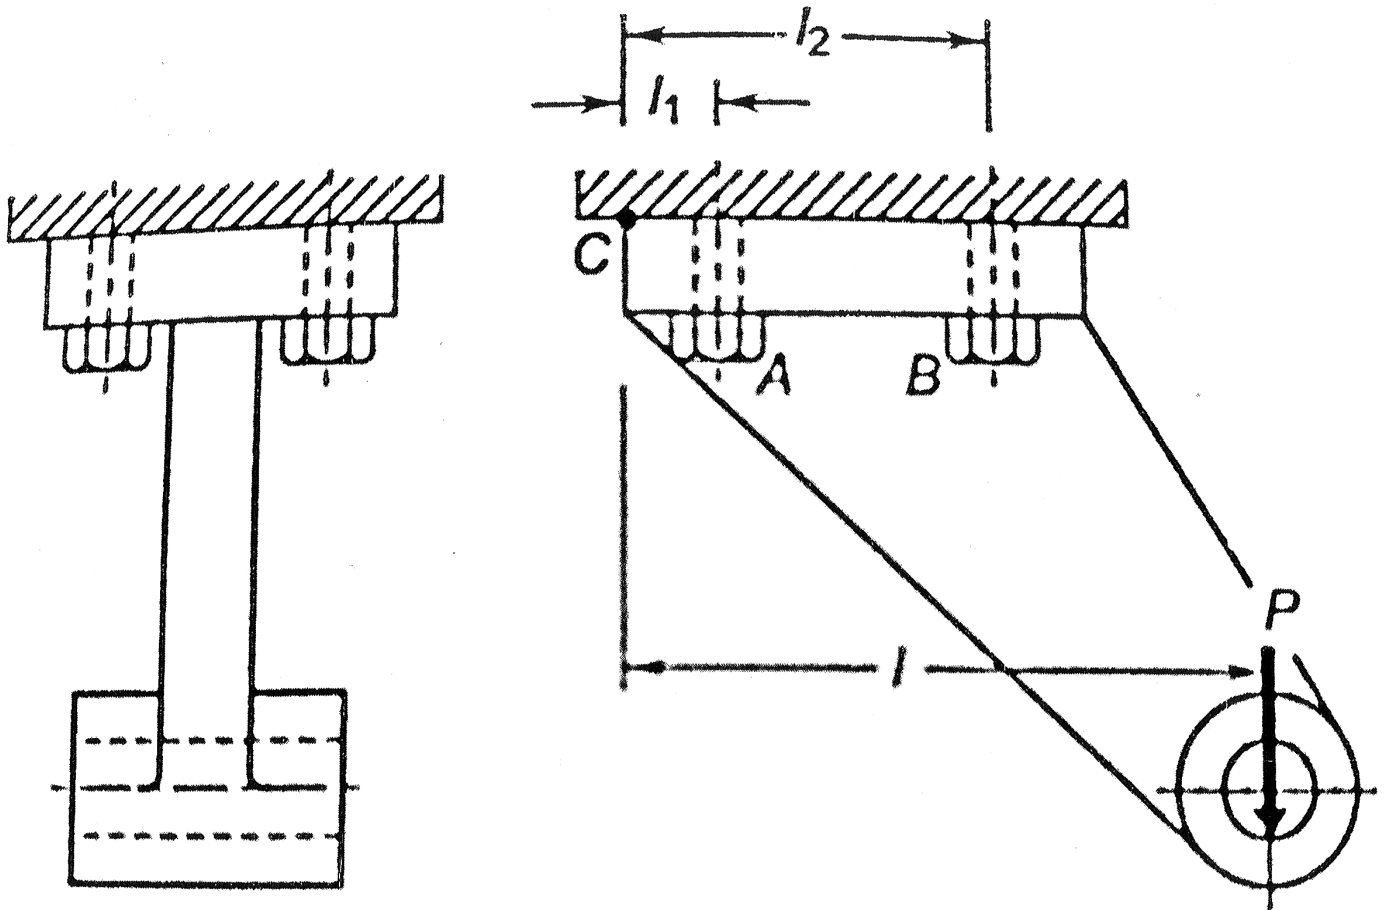

Fig. 3
4. A cast-iron bracket fixed to the steel structure is shown in Fig.3. It supports a load P of 25 KN. There are two bolts at A and two bolts at B. The distances are, $l_1= 50 \text{ mm}$, $l_2= 200 \text{ mm}$, $l = 400 \text{ mm}$. Determine the size of the bolts, if maximum permissible tensile stress in the bolts is 50 N/mm^2 . (30)